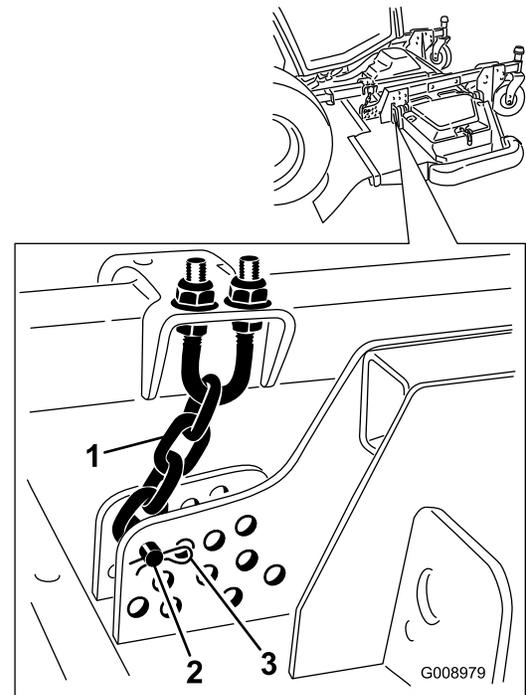

**Figure 133**
3. Remove the retainer clip and disconnect the damper assembly from the cutting unit (Figure 133).